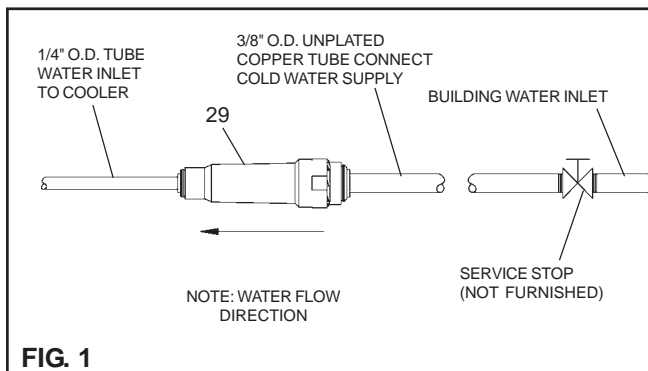

FIG. 1
3. **Actuation of Quick Connect Water Fittings:** Cooler is provided with lead-free connectors which utilize an o-ring water seal. To remove tubing from the fitting, relieve water pressure, push in on the gray collar while pulling on the tubing (See Figure 1). To insert tubing, push tube straight into the fitting until it reaches a positive stop, approximately 3/4".